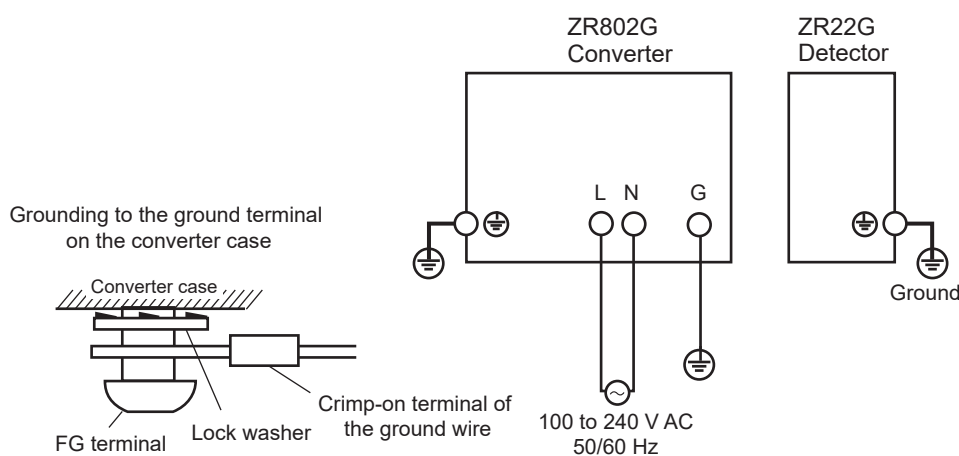

Figure 5.6 Power and Grounding wiring
- (1) Keep ground resistance to 100 Ω or less (equivalent JIS D style (Class 3)).
- (2) When the ambient temperature of the wiring installation is 75 to 150°C for the wiring of the detector, use wiring material with sufficient heat resistance.
- (3) When connecting the ground wiring to the ground terminal of the converter case, be sure that the lock washer is in contact with the case surface (see Figure 5.6.).